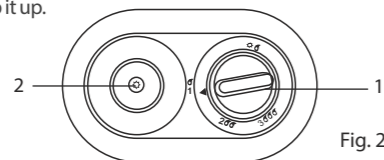

Fig.2
Control panel (fig. 2)
2. Press and slowly turn the gas control knob on the control panel to 1 position (Fig.2). Keep the gas control knob pressed for 20-30 seconds. At the same time, press the piezo-ignition button several times, until the pilot lights up. Every time you press the piezo-ignition button, you can hear a loud click and see a spark on the piezo-ignition electrode. Continue keeping the gas control knob pressed for 10-15 seconds after ignition of the pilot flame in order to activate the flame detector.